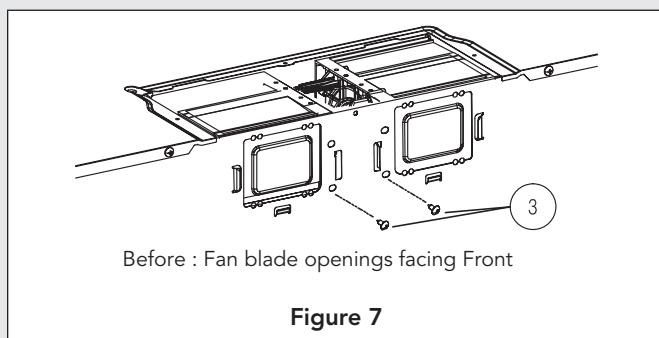

Figure 7
- Remove the screws (3) for Blower attachment and save screws. See Figure 7.